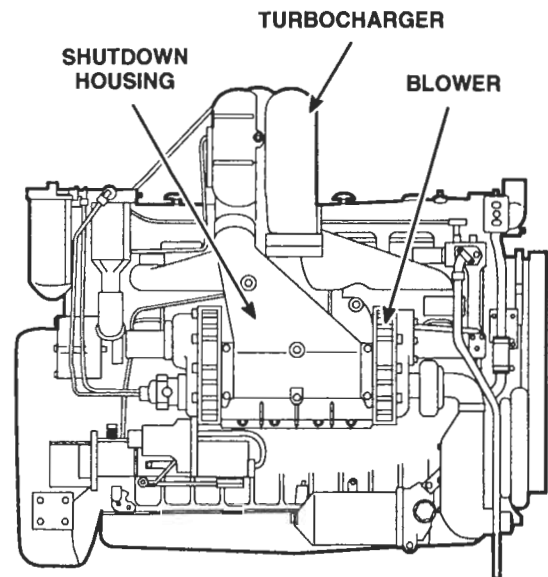

Figure 4. Typical Blower Mounting (71T Engine)
5. If the engine is equipped with a turbocharger, loosen the hose clamps and slide the hose and clamps back on the air inlet housing (Figure 4.)